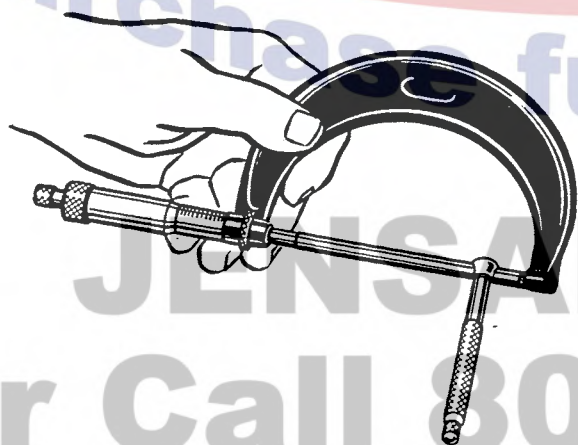

Figure 18
- Using an inside micrometer or a cylinder bore gauge Figure 18, check the sleeve bore for out of roundness. Check crosswise and lengthwise to the engine block just below the top ring location at its upper most travel. If the out of roundness exceeds .005", the sleeves should be replaced.